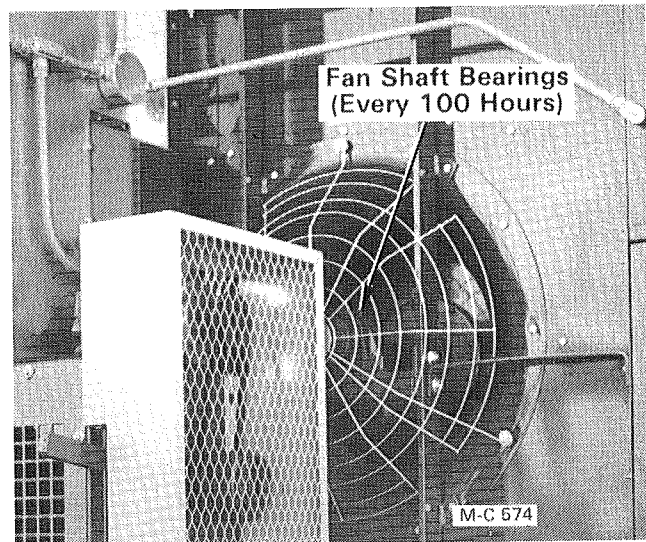

Figure 31
2. Lubricate the bearing on each end of the fan shafts, see Figure 31.